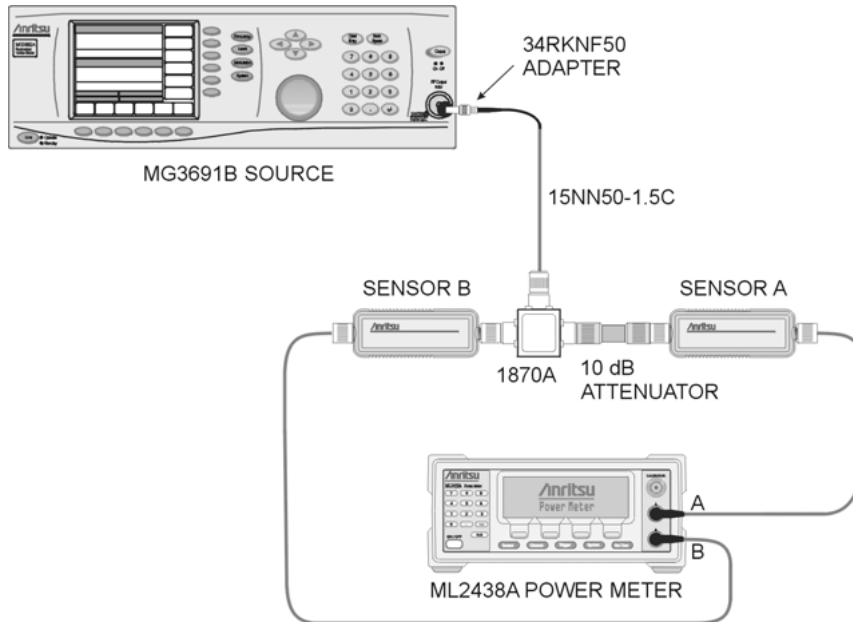

Figure 3-1. Level Accuracy Across Frequency Test Pre-test Setup
5. Install the 10 dB Fixed Attenuator to the other power splitter output and then connect Sensor A to the end of the Attenuator (Refer to Figure 3-1).
9. Connect the power splitter to the MG3691B output and Sensor B to one of the power splitter outputs. Install the 10 dB Fixed Attenuator to the other power splitter output and then connect Sensor A to the end of the Attenuator. Refer to Figure 3-1.
37. Connect the power splitter to the MG3691B output and connect Sensor B to one of the power splitter outputs. Install the 30 dB fixed attenuator to the other power splitter output, and connect Sensor A to the attenuator. Refer to Figure 3-1.